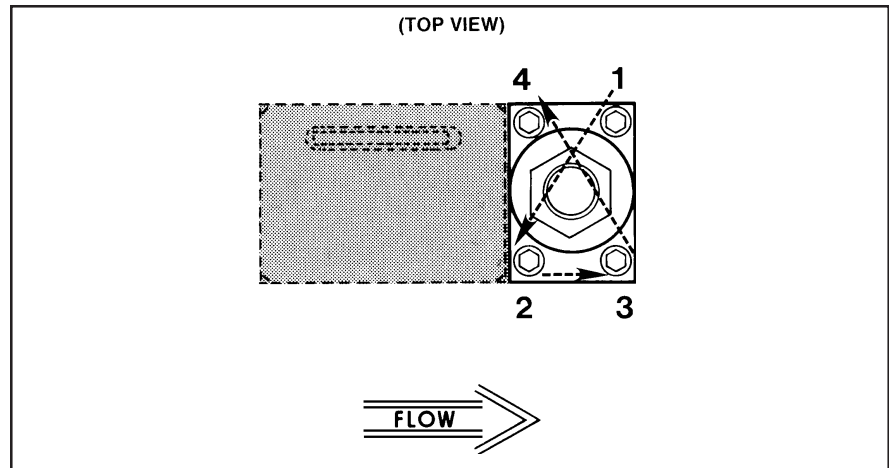

Figure 4-1 Torque Sequence for the Valve Retainer Plate
7. Install the valve plunger assembly (7, 8, 9 and 11)(NC Valve) or (35,31,32,8,9,11)(NO Valve) on the preload spacers (10). Install air gap spacers (10), if used on top of the valve spring.
8. Install the valve stem assembly (6), secure with the valve retaining plate (4) and four hex socket screws (3). When installing the screws they should first make light contact with the plate, which should be checked to insure that it makes full contact around the stem assembly. Torque the screws securing the valve retaining plate in diagonal pattern (Refer to Figure 4-1) to 17 in/lbs.
9. Install the coil assembly (2) over the valve stem assembly (6)(NC Valve) or (34)(NO Valve) install extension spacer nut (3)(NO Valve) and secure with jam nut (1).
10. Install the printed circuit (PC) Board (15), secure with the bracket (24) and two screws. Plug the connector from the sensor assembly onto the PC Board. The flow arrow on the connector should be pointing toward the valve assembly.
11. Install the electronics cover (23) on the controller, secure with three screws (20). Plug the connector from the valve coil into the PC Board through the hole in the electronics cover.